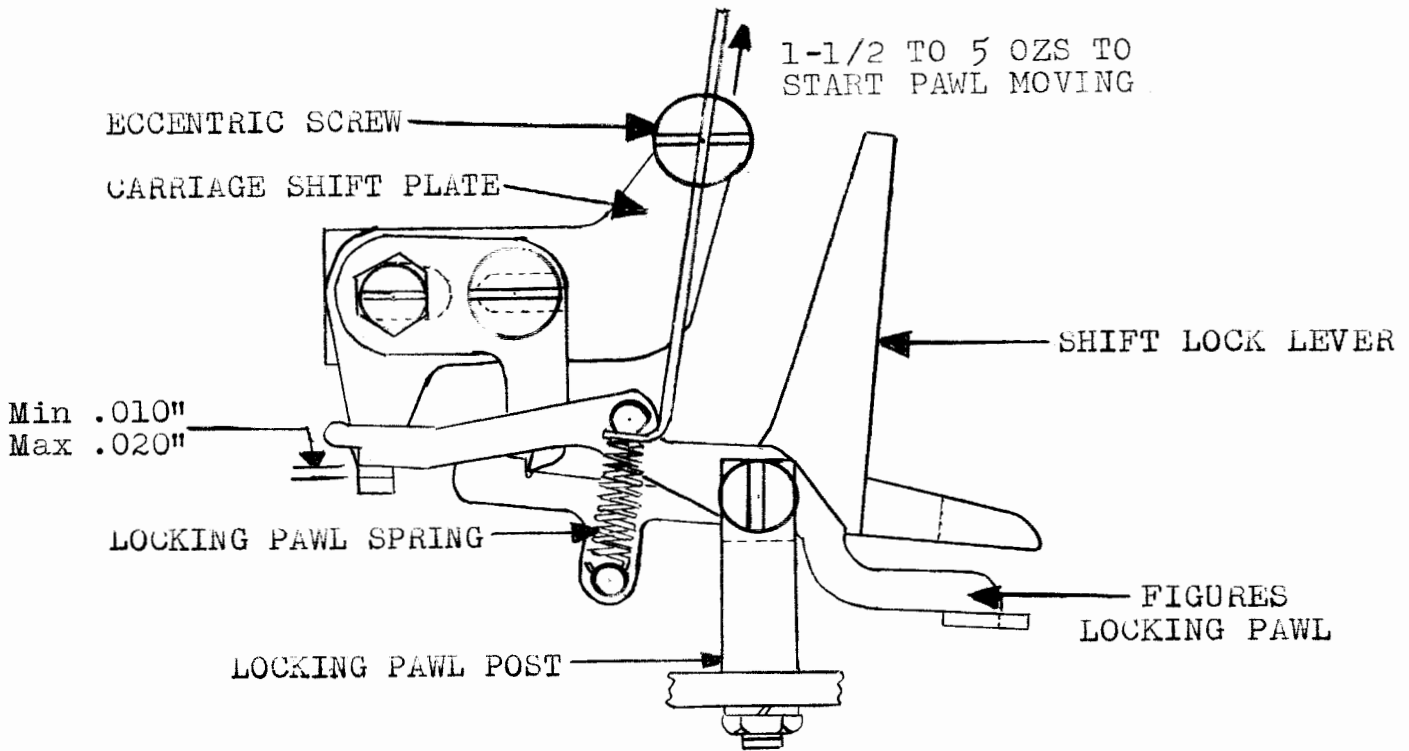

Figure 14
6.01 FIGS Locking Pawl: The side of the pawl should be parallel to the side of the carriage shift-plate. (See Figure 14.)
the motor until the main bail is in its uppermost position. There should then be minimum 0.010 inch, maximum 0.020 inch clearance between the lower surface of the pawl and the upper surface of the projection on the shift-plate when the carriage is being moved manually from the LTRS to the FIGS position. (See Figure 14.)
6.07 FIGS Locking Pawl Spring: It should require minimum 1-1/2 ounces, maximum 5 ounces to start the pawl moving when the carriage is in the LTRS position and the FIGS pullbar is in its unoperated position. (See Figure 14.)
7.01 FIGS Locking Pawl: The side of the pawl should be parallel to the side of the carriage shift-plate. (See Figure 14.)
(a) There should be minimum 0.010 inch, maximum 0.020 inch clearance between the locking surface of the locking pawl and the vertical surface of the projection on the carriage shift-plate when: (See Figure 14.)
7.07 FIGS Locking Pawl Spring: It should require minimum 1-1/2 ounces, maximum 5 ounces, to start the pawl moving when the carriage is in the LTRS position and the FIGS pull-bar is in its unoperated position. (See Figure 14.)